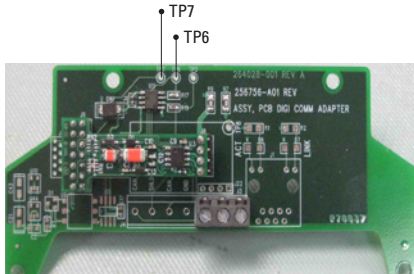

Figure 4
2. Make an electrical connection between TP6 and TP7 on the 2100DC using a jumper wire. See **Figure 4** for the location of TP6 and TP7.